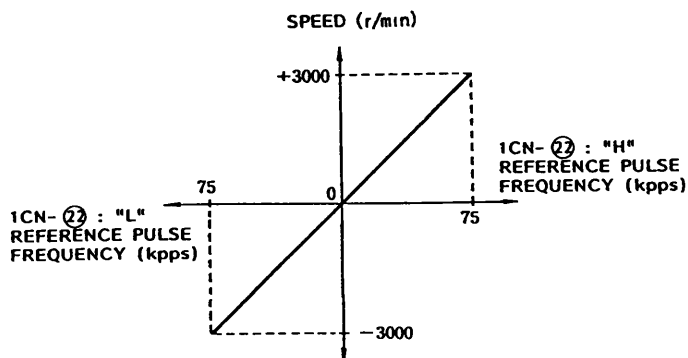

Fig 10.1 Reference Input Frequency and Motor Speed Characteristics
- Speed reference input and servomotor speed ratio (Fig. 10.1)